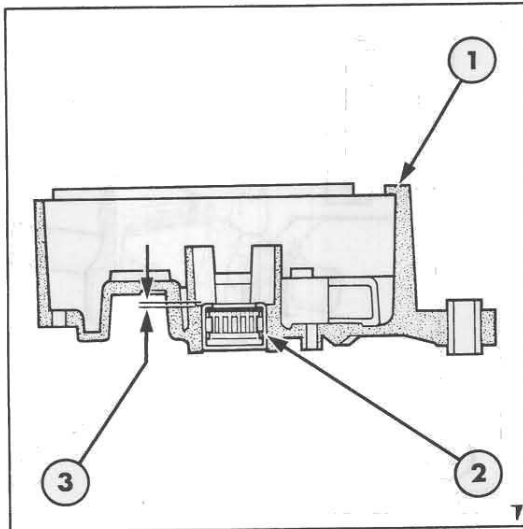

Figure 28
6. Press the new bearing into the housing. The bearing should be positioned 0.50 – 0.70 mm (.020 – .028 in) proud of the inner face of the bearing boss, Figure 28.